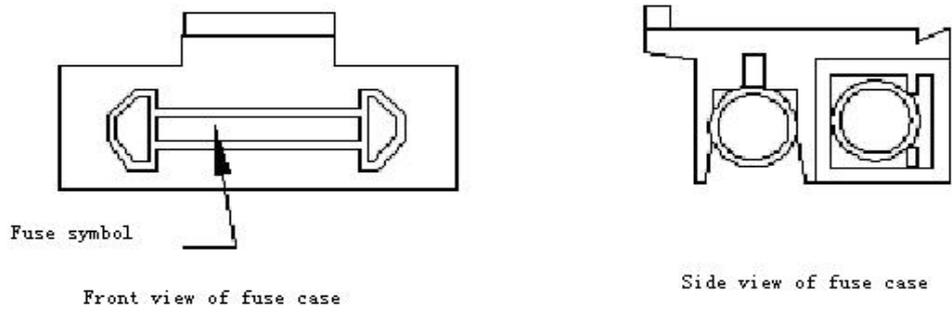
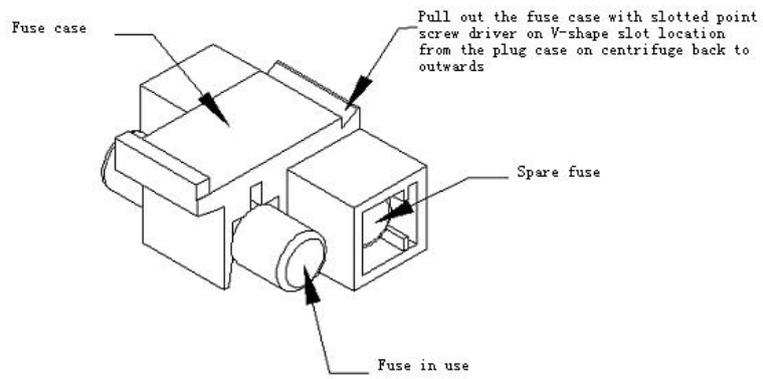

Figure 3
Figure 4
(1) Cut off the power, and unplug the plug the power cord connected with the external electric supply socket. Then draw another end of the power cord connected with the centrifuge.
(2) There is a fuse case equipped on the under part of electric outlet on instrument back. (See figure 3) There is a marking for fuse symbol, and find the V-shape slot on fuse case. (See figure 4) Pull out the fuse case with slotted point screw driver into the V-shape slot.
(3) Take out the damaged fuse and replace it. The model of fuse of the centrifuge is BGXP 5×20 、 250V $\sim$  2A.
(4) Put the fuse case into electric outlet.